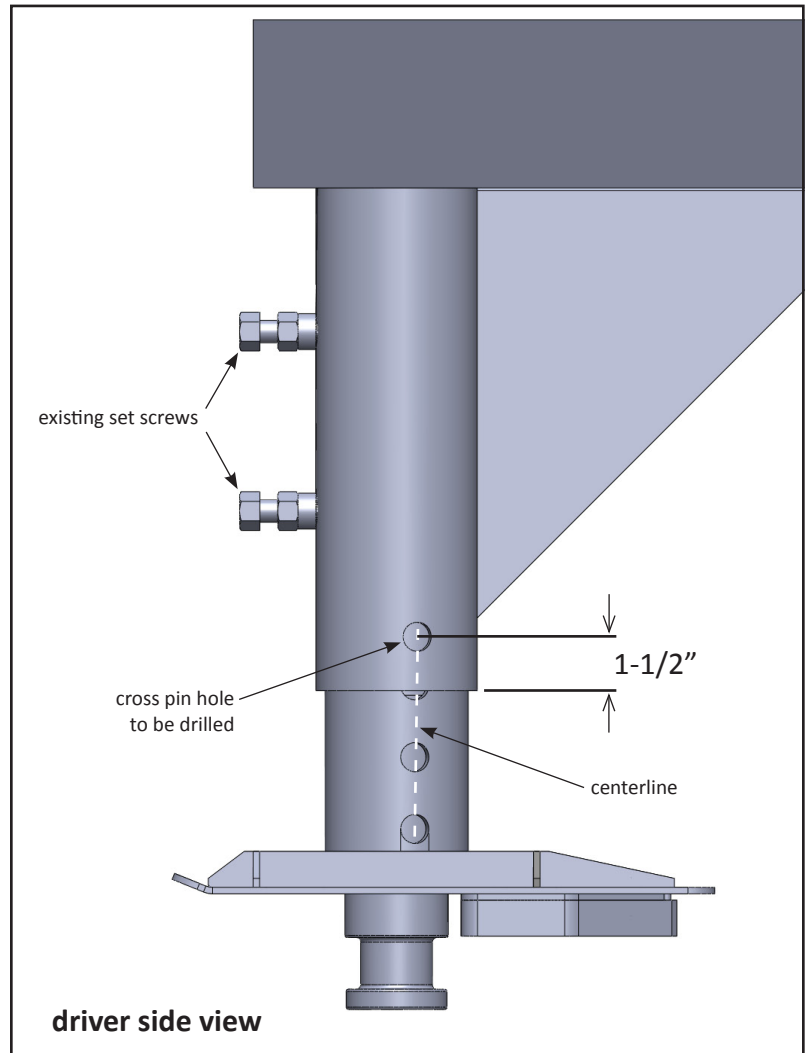

Figure 1
1. Insert the SuperGlide Horse Trailer Adapter into the trailer's drop tube, leaving the last two holes visible (see Figure 1) and tighten the existing set screws to hold the adapter in place.
3. Once the adapter is square to the trailer, starting on the driver side, draw a vertical center line through the holes in the adapter, extending the line at least 2" up the drop tube of your trailer. This will help you in finding the correct location to drill for the cross pin. See Figure 1.